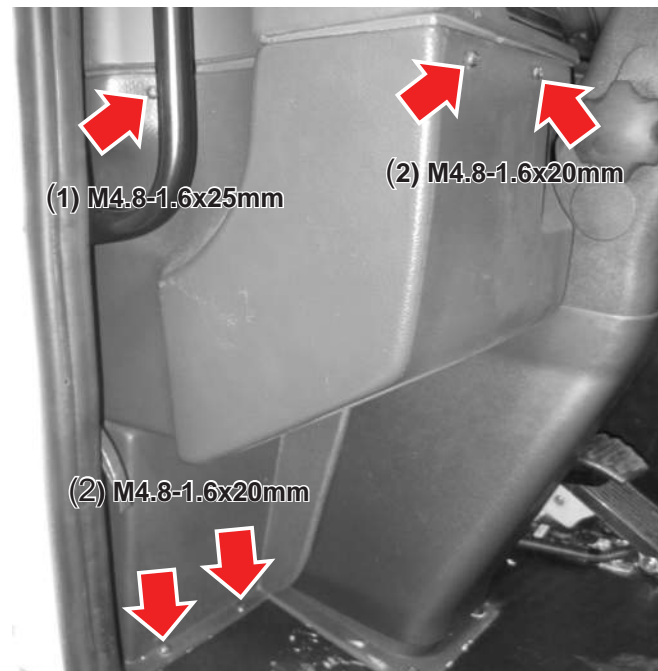

Figure 20-1
1. Align the lower LH instrument panel trim panel with mounting spring nuts on the upper instrument panel (see Figure 20-1).
2. Reinstall the three upper sheet metal screws, ensuring they are driven through the spring nuts (see Figure 20-1).
3. Reinstall the lower two sheet metal screws (see Figure 20-1)